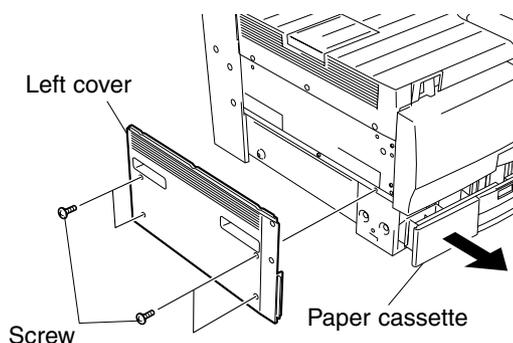

Fig. 2-6-13
3. Detach left cover. (See Fig. 2-6-13)